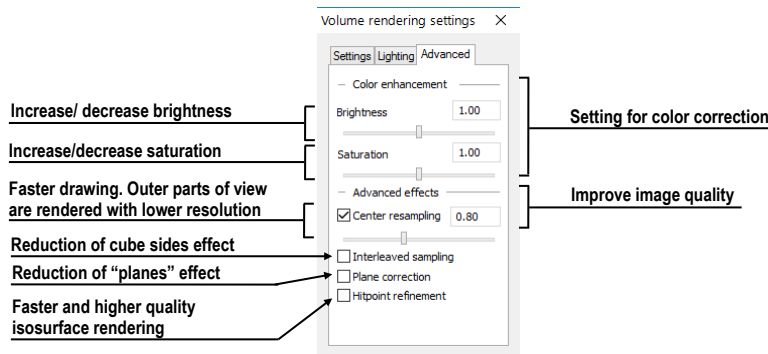

Figure 322 – Volume rendering settings, the third tab
- Settings for color corrections and advanced ray casting settings on the third tab (see Figure 322)